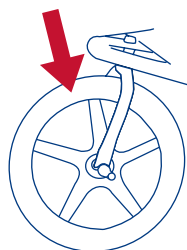

Fig. 22
- 22) • Lift the front wheel off of the ground and sharply strike the top of the tire (Fig. 22). The wheel should not be loose or come off.